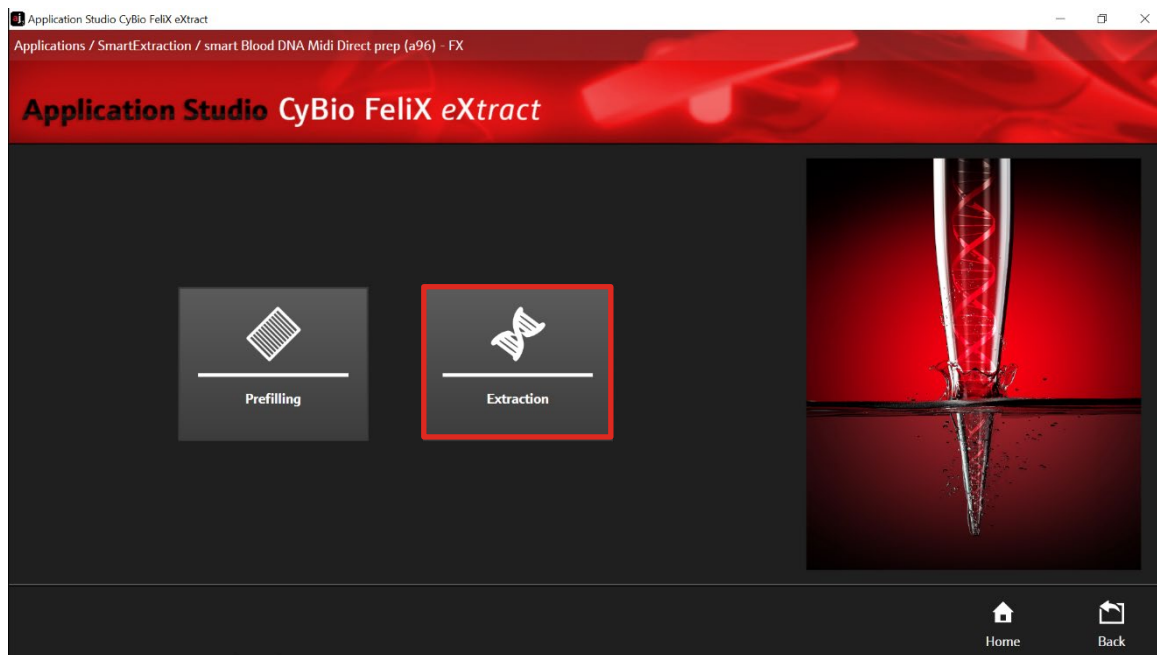

Figure 33: Routine selection: Extraction.
5. Select "Extraction" (→ see Figure 33).